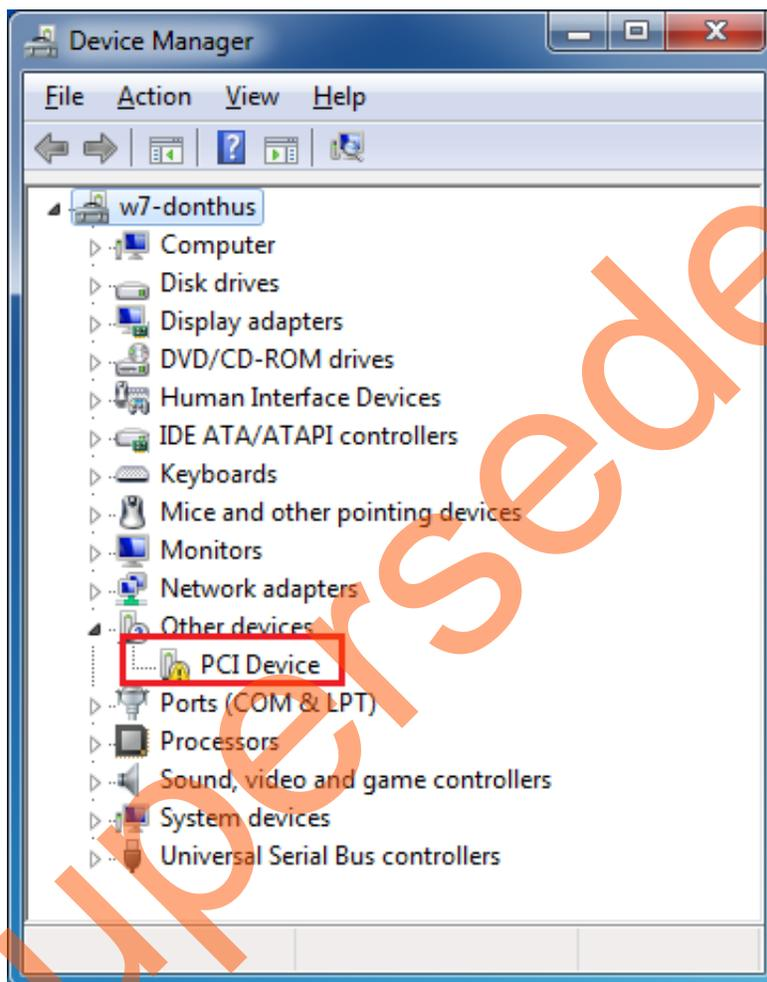

Figure 52 • Device Manager
2. Power on the host PC and check the host PC Device Manager for PCIe device as shown in Figure 52. If the PCIe device is not detected, power cycle the IGLOO2 Evaluation Kit board and click **scan for hardware changes** in the Device Manager.